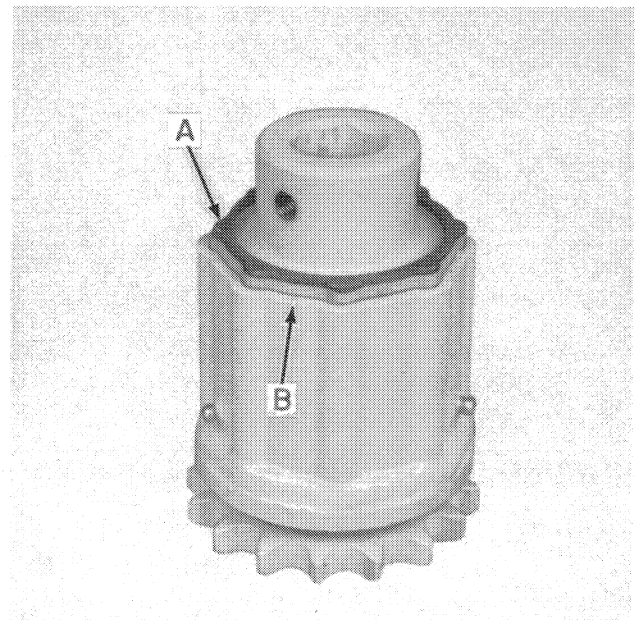

Figure 2-18
A metal ring, A, Figure 2-18, and nylon ring, B, will also be removed with the pin cylinder assembly.
11. Install nylon ring, B, Figure 2-18.
12. Install metal ring, A, Figure 2-18.